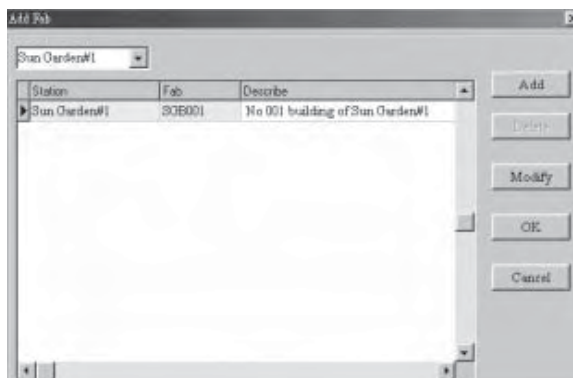

Fig. 4-8 The Controllers Adding Competition Dialogue Frame
2.2 Click **OK** to end the set of the FAB1 as in Fig. 4-8.